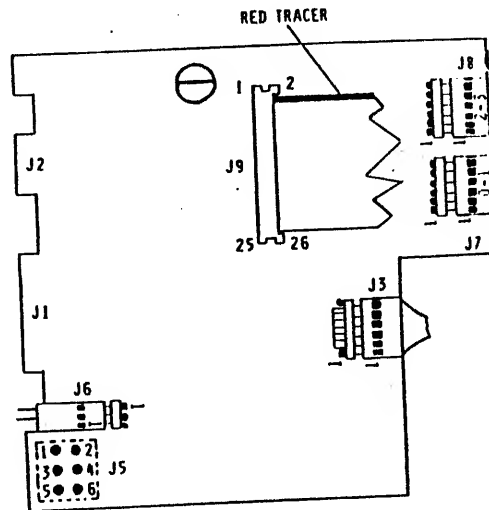

Figure 3-27
4. Disconnect J6 through J9 on 10 MB control PWA. (See Figure 3-27).
5. Remove one screw located at top edge of PWA. (Fig.3-27)
6. Unfasten the (3) quarter turn PWA mounts.
3. Fasten the (3) quarter turn PWA mounts.
5. Refer to Figure 3-27 and reconnect J-5 through J-9.